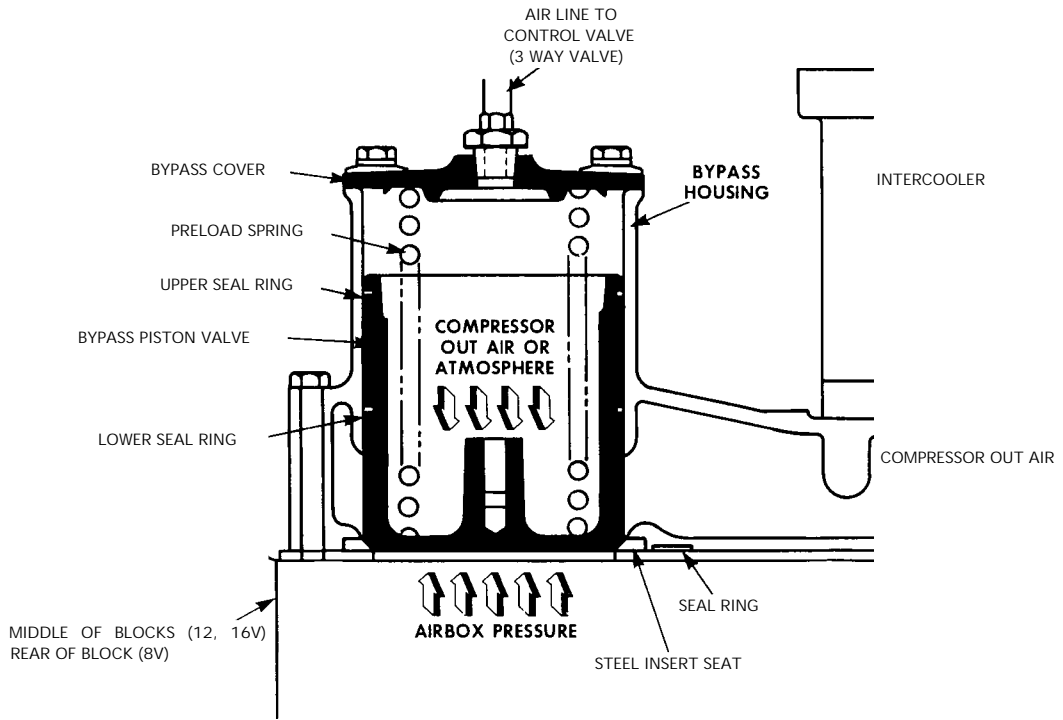
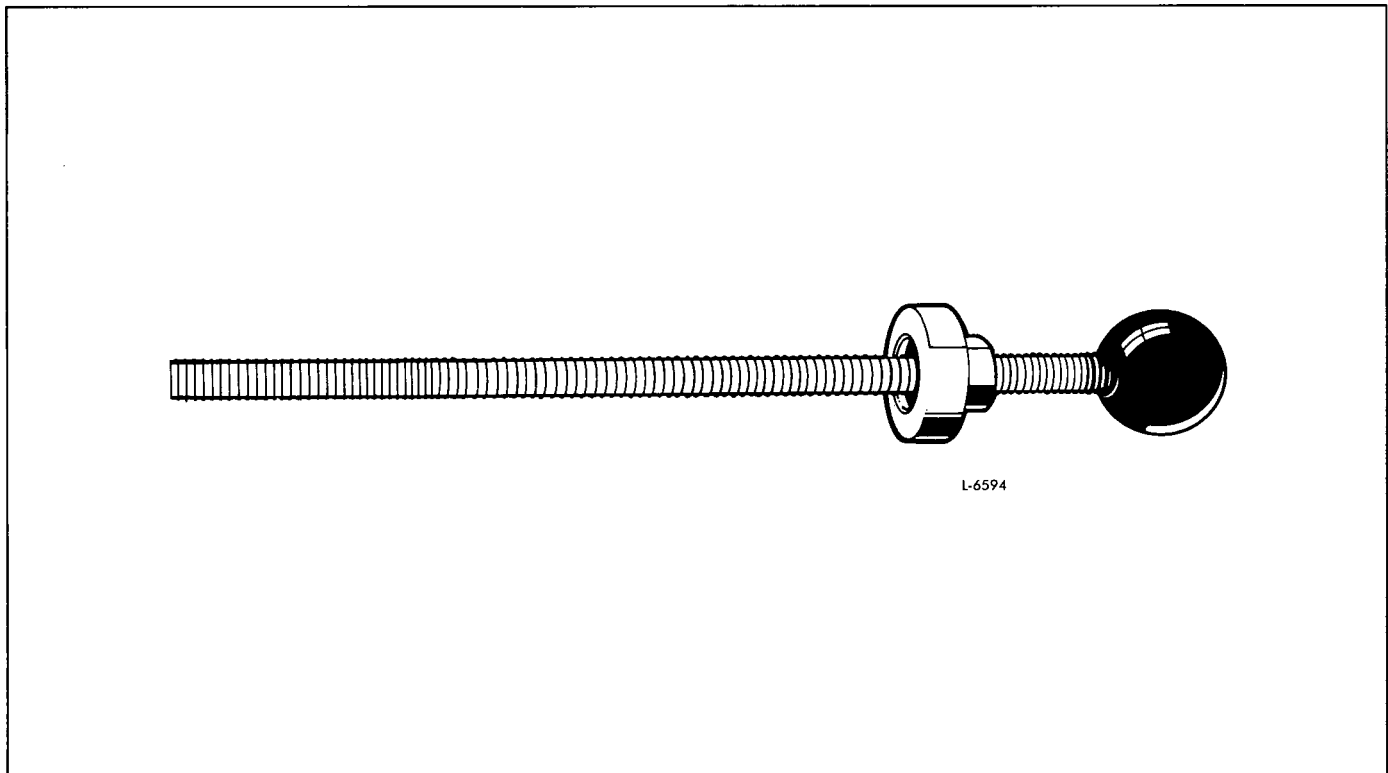

Fig. 3 - Piston Style Blower Bypass Valve Assembly
Fig. 4 - Bypass Valve Assembly/Disassembly Tool J-37466
- a. With the rear snap ring in position on the blower drive shaft, slide the shaft into position against the rear blower drive coupling hub (Fig. 4).
- d. On 12V engines, slide the cover hose, located on the blower drive gear support, over the blower end plate cover with two (2) hose clamps.
- e. On the 16V engine, slide the inner tube connector into the blower end plate cover and secure it in place with a retainer clip (inset, Fig. 3).
Tool J 37466 (Fig. 4) consists of a threaded rod with a handle on the end and a special retaining collar attached to a hex nut which moves up and down the threaded rod. This tool is inserted through the air supply lines hole in the cover to aid in the disassembly and assembly of the bypass valve.